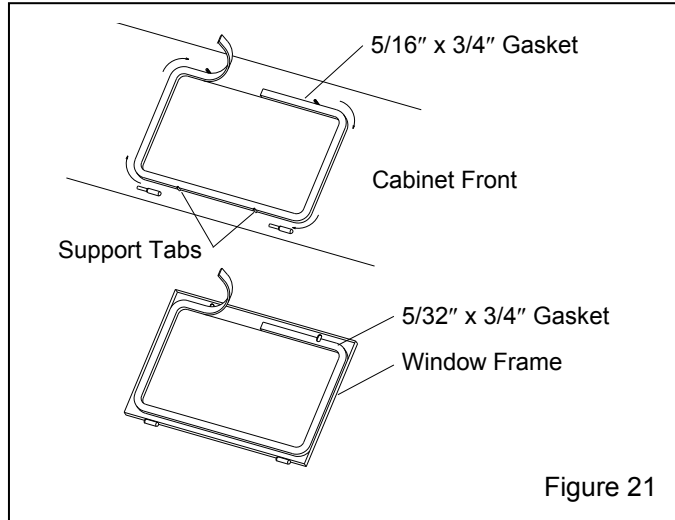

Figure 21
### 7.5 Window Gasket Replacement, Figure 21
**7.5.4** Peel a short section of adhesive backing from the 5/16"-thick strip gasket, and adhere the gasket to the center of the top edge of the window opening, as shown in Figure 21. Peel additional backing as needed, and